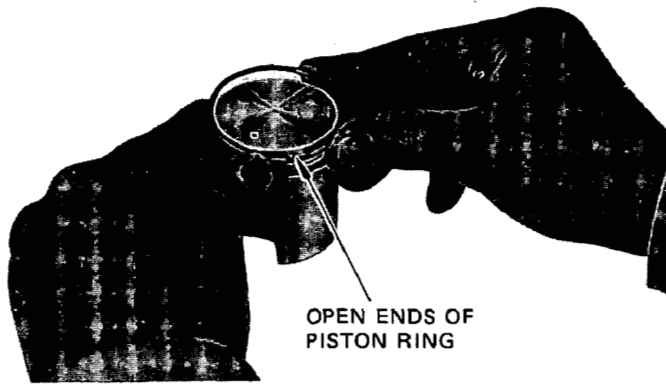

Fig. 6-3-2
- PISTON RINGS (Fig. 6-3-2, 6-3-3)